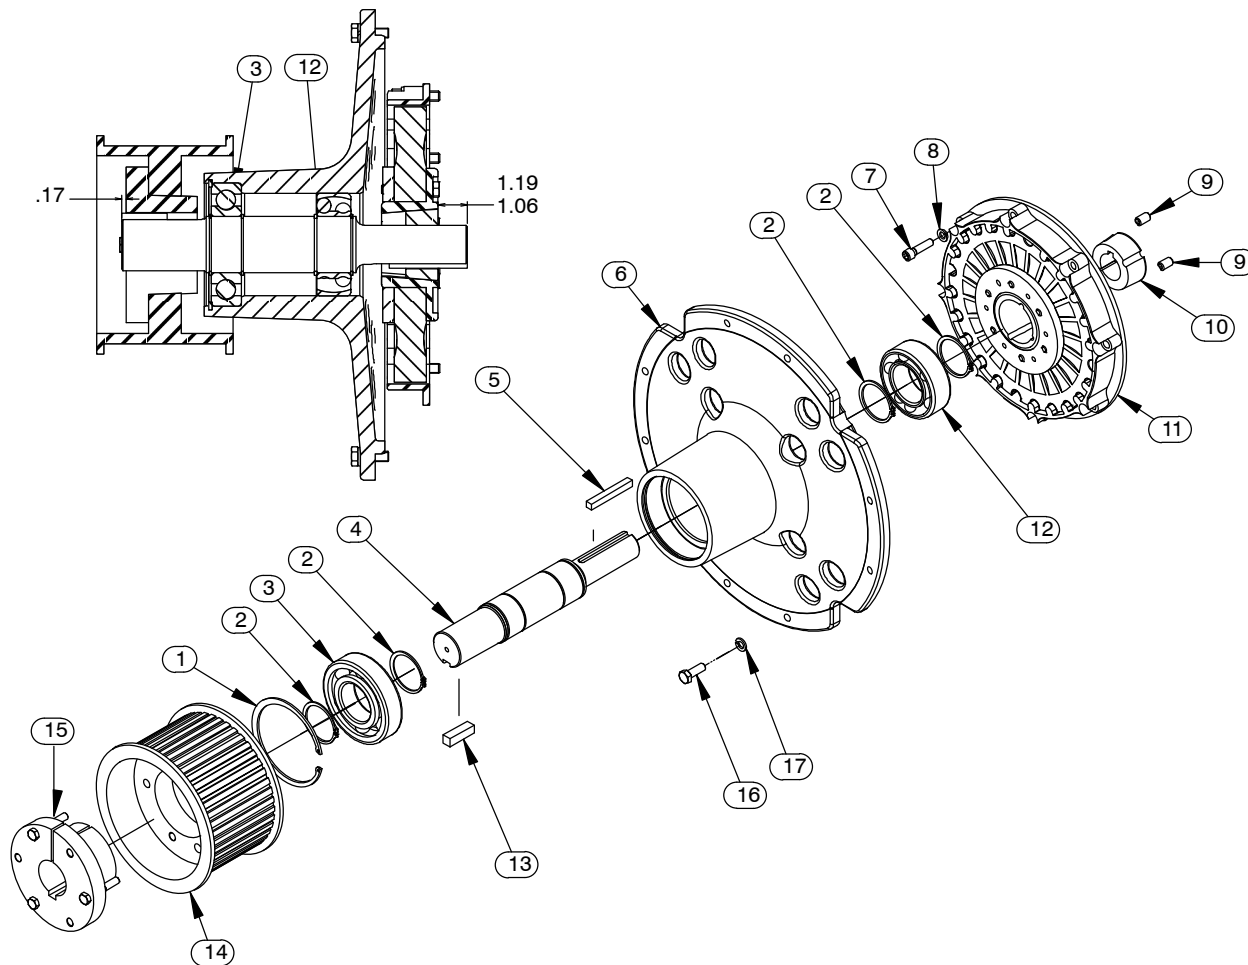

Figure 10. Engine Drive Assembly
pump and pedestal side-to-side. To remove the pedestal, loosen the outer hardware on the threaded rods. Unscrew the jam nuts until they engage the adjusting brackets. Continue to unscrew the jam nuts in an alternating sequence to “push” the pedestal assembly toward the pump sprocket (58). When sufficient clearance is obtained, remove the pump drive belt from the engine sprocket (14, Figure 10).